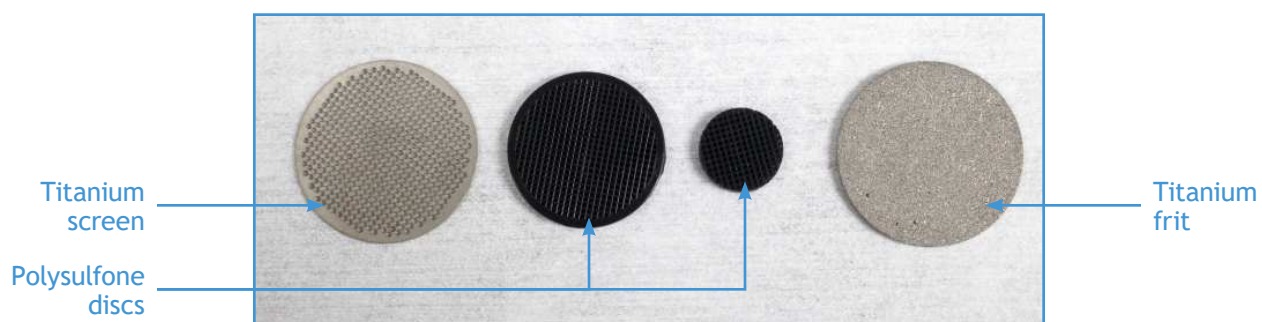

Figure 1-12: Types of puck support
2. Into the puck bottom, place a support. Refer to the following table for the type of support required for a given puck type (Figure 1-12).